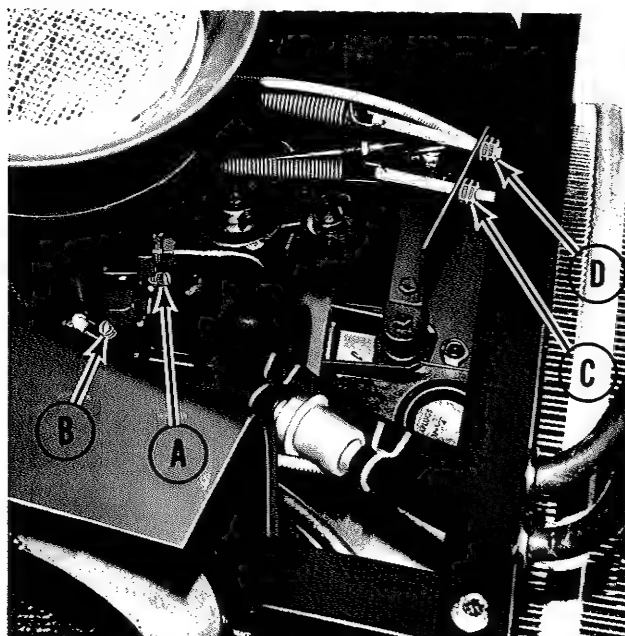

Figure 6. Carburetor and governor adjustments as seen from above engine.
See figure 6. The carburetor has a fixed main fuel jet which does not require any adjustment. The idle jet (A) which affects engine operation at low speed is adjustable. Under normal circumstances, factory carburetor adjustments should not be changed. **CAUTION: SINCE THE CARBURETOR ADJUSTMENT MUST BE MADE WITH THE ENGINE RUNNING, BE SURE THE HYDROSTATIC TRANSMISSION CONTROL LEVER AND THE 3 SPEED GEAR TRANSMISSION LEVER ARE IN NEUTRAL BEFORE LEAVING THE TRACTOR SEAT. SET THE PARKING BRAKE AND INSURE ALL POWER TAKE OFF SWITCHES ARE IN THE "OFF" POSITION. KEEP YOUR HANDS AND ANY CLOTHING AWAY FROM THE FRONT POWER TAKE OFF PULLEY.** Forcing the idle needle against its seat will damage it. The idle needle does not completely shut off fuel when turned fully in. If the idle adjustment has been disturbed, turn the idle needle clockwise gently to its seat, then (counter-clockwise) off its seat 1 to 1-1/2 turns to permit starting the engine. Readjust as follows:
Figure 6. A tachometer is required to set the governor correctly. **CAUTION: SINCE THE GOVERNOR ADJUSTMENT MUST BE MADE WITH THE ENGINE RUNNING, BE SURE THE HYDROSTATIC TRANSMISSION CONTROL LEVER AND THE 3 SPEED GEAR TRANSMISSION LEVER ARE IN NEUTRAL BEFORE LEAVING THE TRACTOR SEAT. SET THE PARKING BRAKE AND INSURE ALL POWER TAKE OFF SWITCHES ARE IN THE "OFF" POSITION. KEEP YOUR HANDS AND ANY CLOTHING AWAY FROM THE FRONT POWER TAKE OFF PULLEY.**